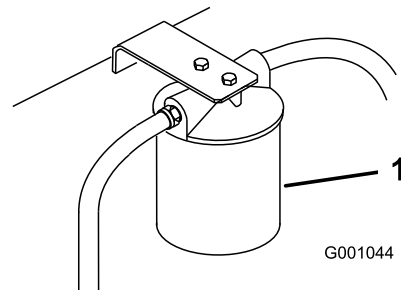

Figure 61
4. Place drain pan under filter, remove the old filter and wipe the filter adapter gasket surface clean (Figure 61).